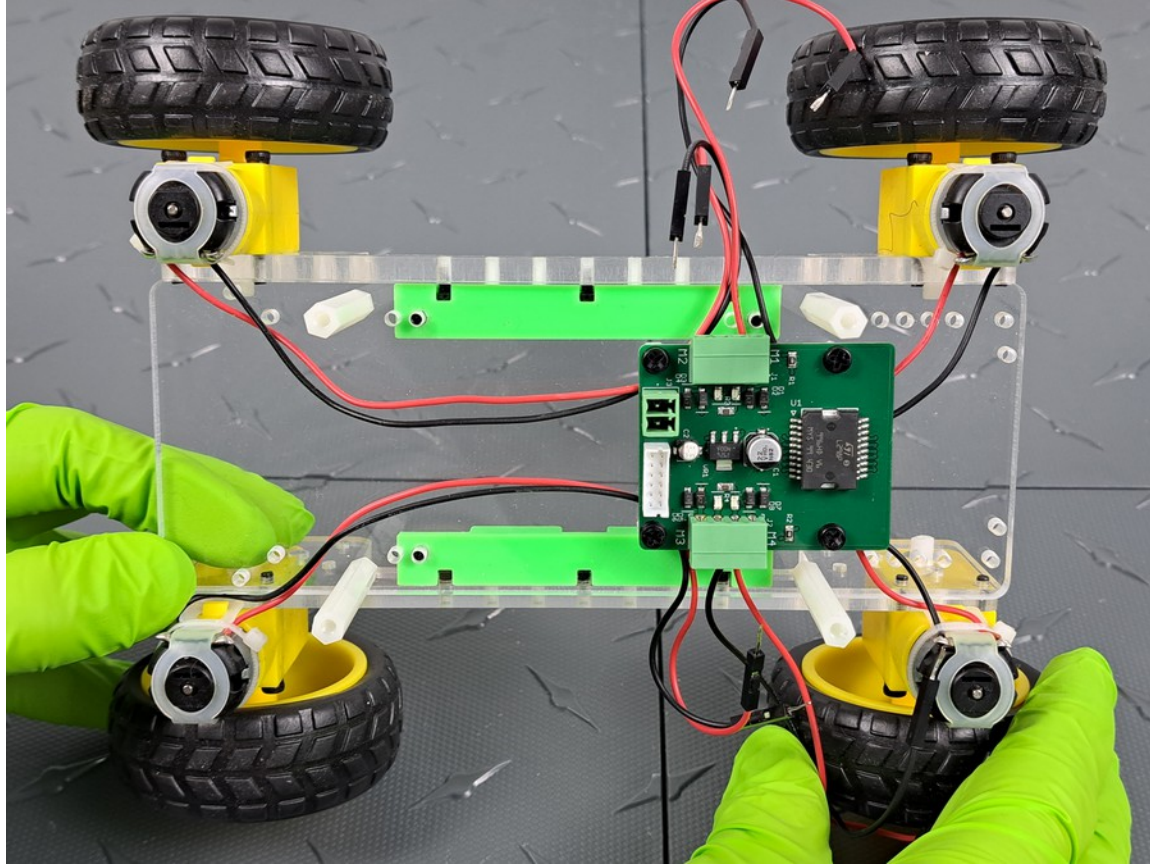

Figure 5 – Correct arrangement of Motor Driver PCB
**5. At this point, the motors, PCB, and wiring should match figure 5 above. It's crucial that the Motor Driver PCB be oriented as shown in figure 5.**